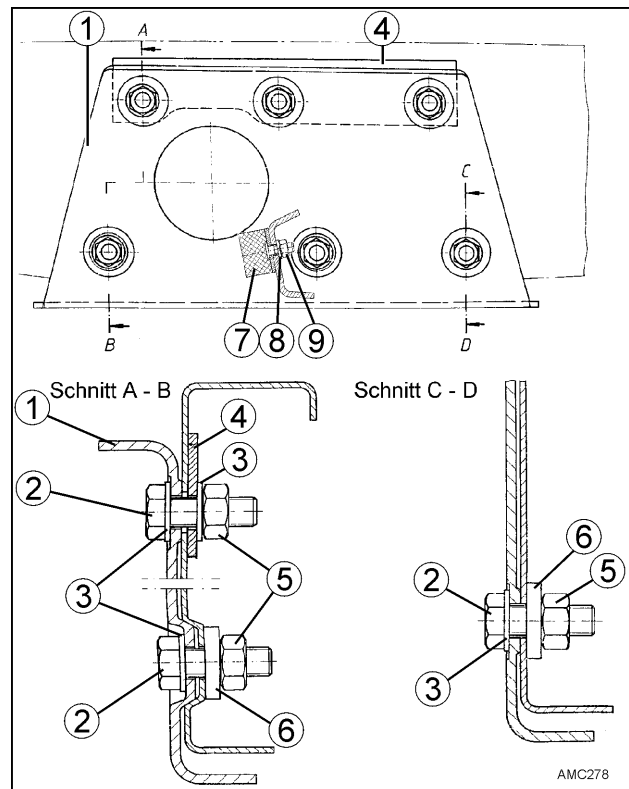

Fig. 37
9. Remove three M12x35 hexagon bolts (Fig 37-2) with DIN 125-A13 discs (Fig 37 - 3).
10. Unscrew the three bottom M12 counternuts (Fig 37 -5) from the inside of the frame and remove the DIN 7349-13x30x4 washers (Fig 37 - 6).
11. Remove three M12x35 hexagon bolts (Fig 37-2) with DIN 125-A13 washers (Fig 37 - 3).
13. Check damping rubber(Fig 37—7), replace if necessary:
Unscrew M8 hexagon nut (Fig 37 -9), remove B8 spring washer (Fig 37 - 8) and damping rubber(Fig 37 - 7).